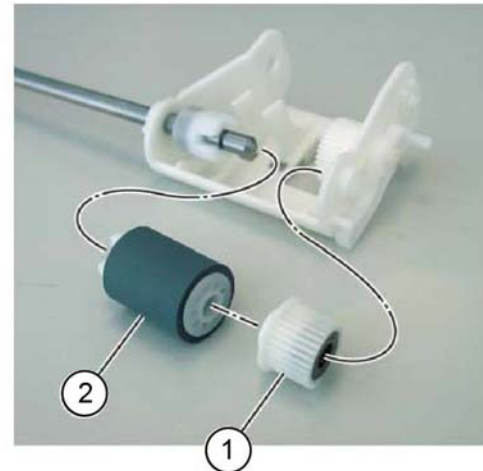

Figure 8 Feed roll removal
9. Remove the bypass tray feed roll, Figure 8:
- a. Remove the gear (1).
- b. Remove the bypass tray feed roll (2).